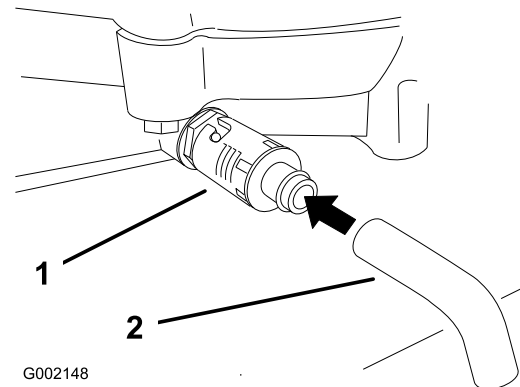

Figure 20
4. Place a pan below the drain. Rotate oil drain valve to allow oil to drain (Figure 20).